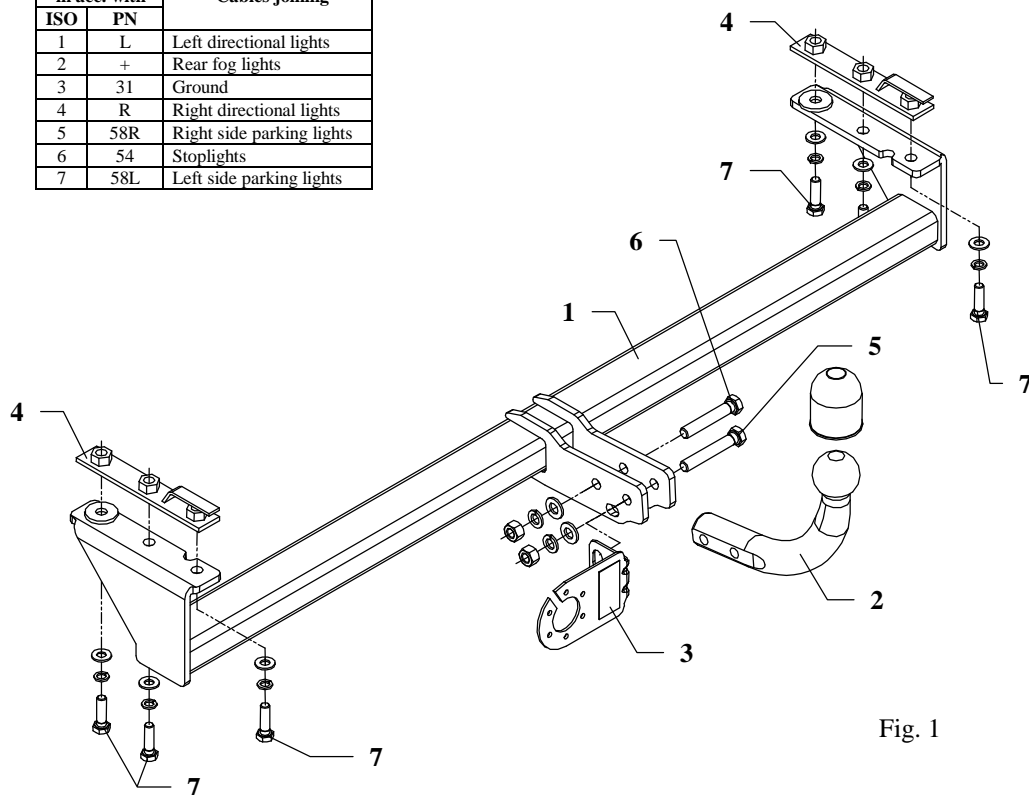

Fig. 1
4. Slip nut on jibs (pos. 4) to inside of the chassis members (through previously made holes $\varnothing 35\text{mm}$) in that way so thier holes overlap on previously drill holes $\varnothing 12\text{mm}$.
5. Apply the main bar of the towbar (pos. 1) to so prepared places then fix using bolts M10x35mm (pos. 7).
7. Fix tow-ball (pos. 2) with socket plate (pos. 3) using suitable bolts from the towbar accessories, see fig. 1.